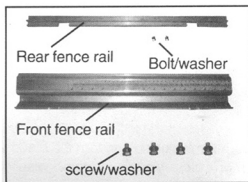

Fig.3
Install the rear fence rail to the table with (4) M6-1.0×20 hex bolt and (4) flat washer M6(Fig.3)
Install the front fence rail to table with (4) screw and (4) flat washer M8 (Fig.3).
- b) Remove the rip fence rail from the front of the table by releasing the 4 thump screws (Fig.3 on page 5).
- i) Replace the rip fence guide, and retighten the 4 thump screws (Fig.3 on page 5).